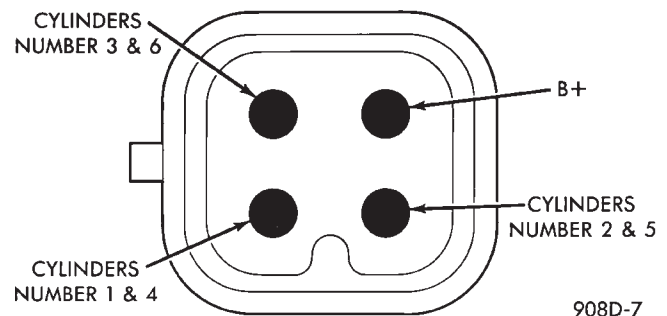

Fig. 2 Ignition Coil Terminal Identification
(1) Remove the ignition cables and measure the resistance of the cables. Resistance must be between 3,000 to 12,000 ohms per foot of cable. Replace any cable not within tolerance.
(2) Disconnect the electrical connector from the coil pack.
(3) Measure the primary resistance of each coil. At the coil, connect an ohmmeter between the B+ pin and the pin corresponding to the cylinders in question (Fig. 2). Resistance on the primary side of each coil should be 0.5 - 0.7 ohm. Replace the coil if resistance is not within tolerance.